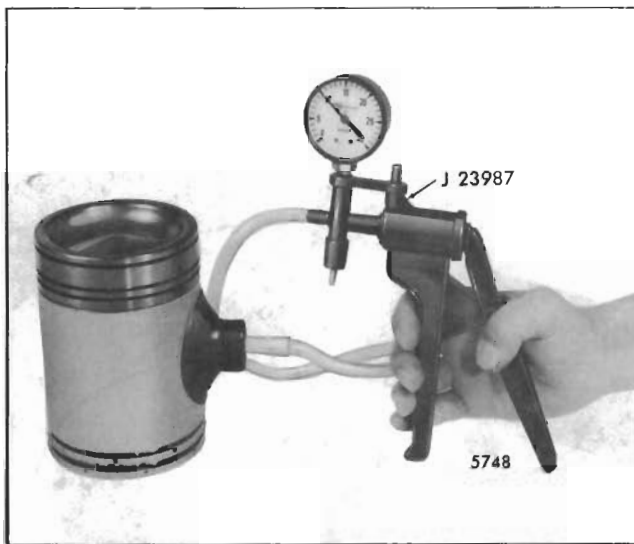

Fig. 10 - Checking Piston Pin Retainer for Proper Sealing
10. One important function of the piston pin retainer is to prevent the oil, which cools the underside of the piston and lubricates the piston pin bushing, from reaching the cylinder walls. Check each retainer for proper sealing with leak detector J 23987 (Fig. 10). Place the suction cup over the retainer and hand operate the lever to pull a vacuum of ten inches on the gage. A drop in the gage reading indicates air leakage at the retainer.